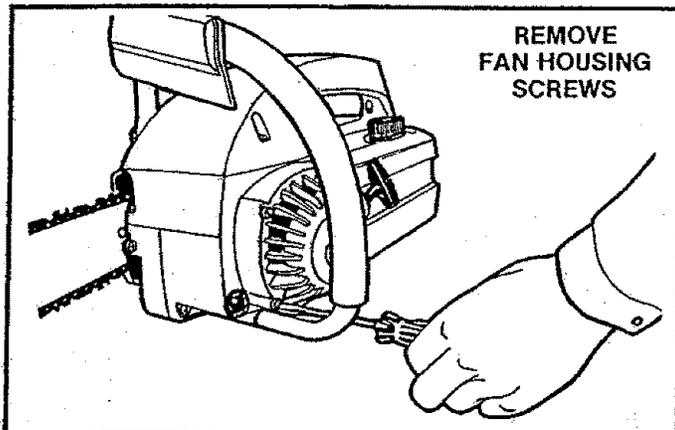

Figure 49
2. Remove the two screws on the side of the fan housing. Figure 49.